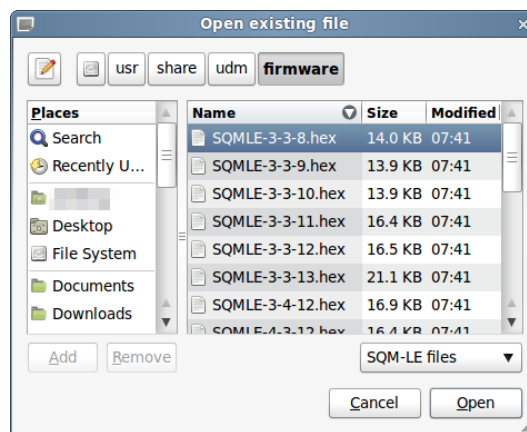

Figure 7.36: Firmware selection
1. Press the “Select Firmware” button to choose the firmware file to load in to the SQM as shown in Figure 7.36: